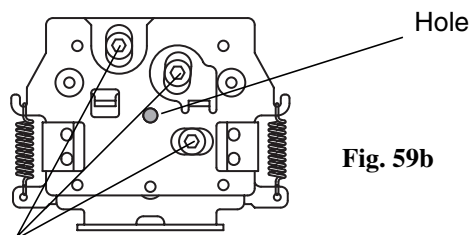

Fig. 59b
**Note;** Before mounting the Adjustment Tool, set adjustment screws of Adjustment Tool in center of the adjustment range. Refer to Screw Setting. (Fig.59b)